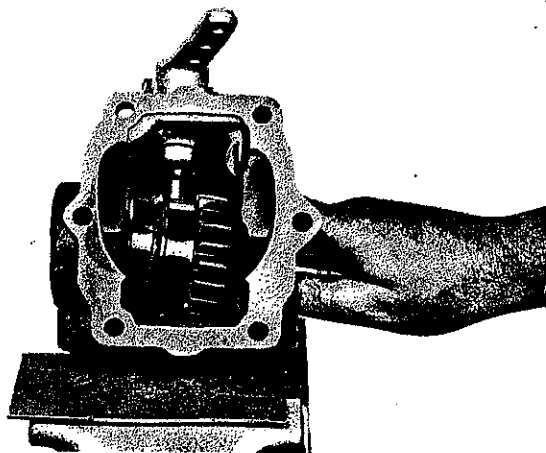

Fig. 61
2.2 Press ball bearing (3) on output shaft and then insert circlip (2). Insert pre-assembled output shaft into housing (Fig. 61).